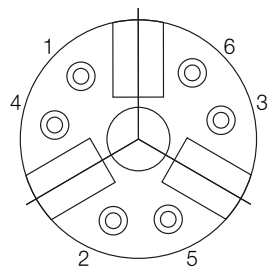

Fig.5
척 체결볼트를 균등히 체결하여 주십시오. (Fig.5) 1→2→3→4→5→6 (불균일한 체결은 흔들림의 원인이 됩니다.)
(4) Mount the chuck to the spindle (back plate) Turn the joint handles so that the chuck is properly attached to the spindle mounting face of lathe. Uniformly tighten chuck mounting bolts in the order of 1,2,3,4,5 and 6 as shown in Fig.5 (Uneven tightening will cause run-out.)
均匀地，紧夹头螺栓 (Fig. 5)